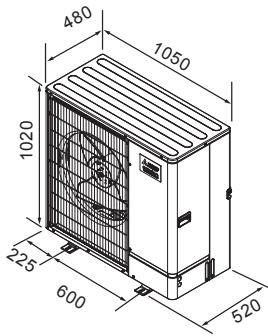

Fig. 1-18
■ Outline dimensions (Outdoor unit) (Fig. 1-18)
(1) Windy location installation